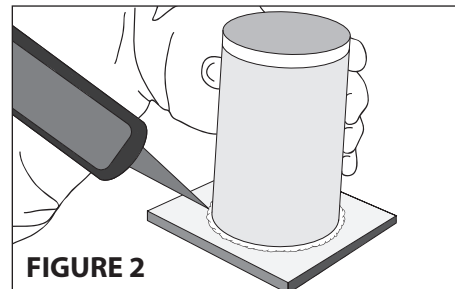

FIGURE 2
3. Press the outer adapter onto the louvered exterior vent. Fit additional pipe selections so that the total length is just slightly less than the wall thickness. Apply a 1/4" bead of caulk on the interior side of the outer adapter. **See Figure 2.** Fix the pipe in place using four of the screws